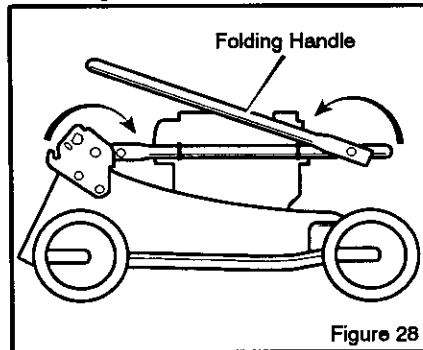

Figure 28
1. Loosen the fasteners that hold the upper part of the handle to the lower part of the handle. As you fold the handle, make sure the cables are not around the loose fasteners and do not become damaged. Rotate the upper part of the handle back (Figure 28).